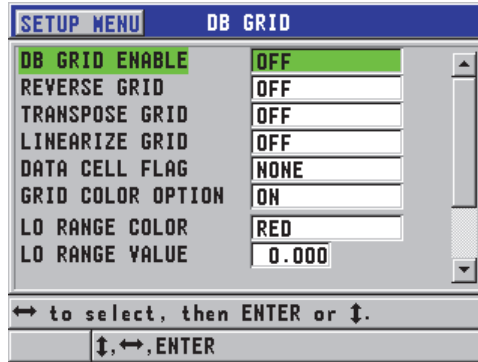

Figure 9-8 Changing DB grid parameters
2. In the **DB GRID** screen (see Figure 9-8 on page 168), perform the following steps.